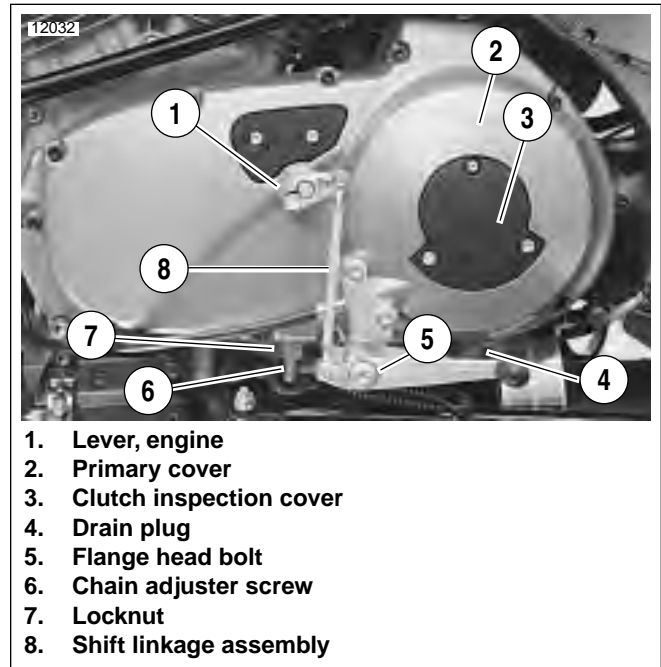

Figure 2-105. Installing Shift Linkage
4. See Figure 2-105. Install rubber washer and shift lever assembly (1).
5. After applying LOCTITE 272 (red), install flange bolt (5) and shift pedal to primary cover, and tighten to 22-24 ft-lbs (30-32.5Nm).